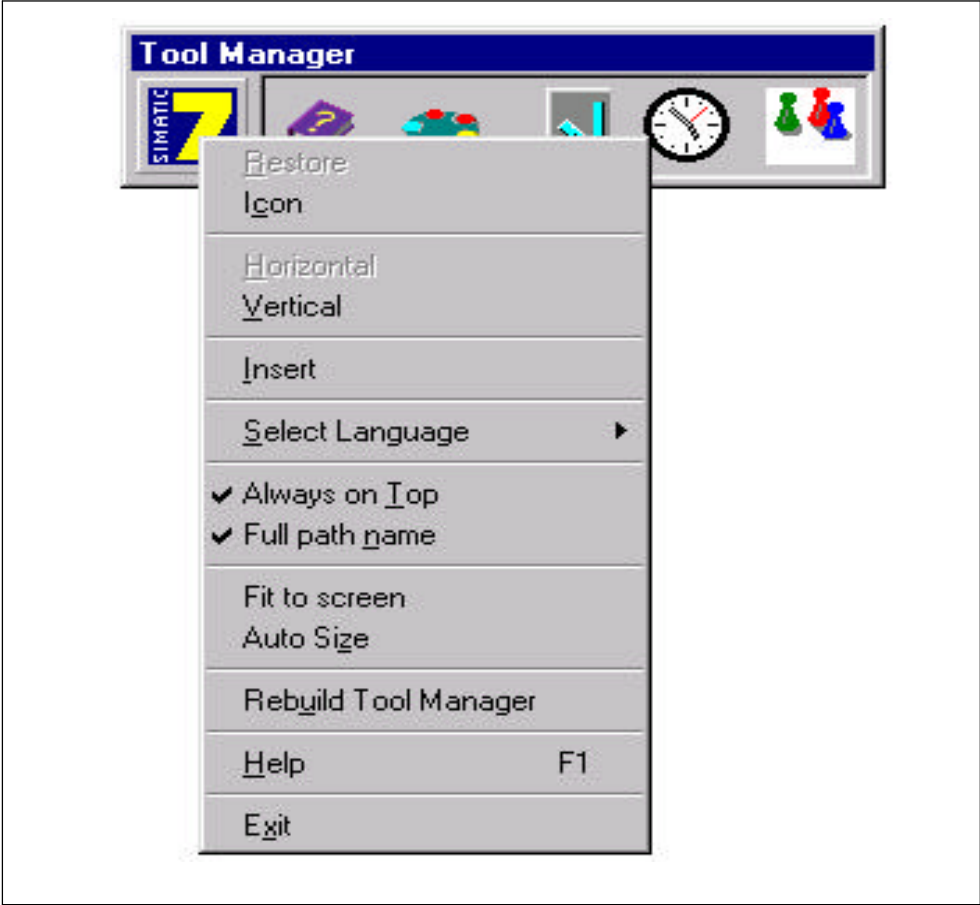

Figure 1-6 Inserting Icons into the WinAC Tool Manager
You can change the size of the Tool Manager. As shown in Figure 1-6, you can use a menu to configure the Tool Manager. You can also choose to display the Tool Manager either horizontally or vertically.
- 2. Display the menu options for the Tool Manager by clicking the right button of the mouse. See Figure 1-6.
You can use the mouse to adjust the size of the Tool Manager. You can also use the options menu (shown in Figure 1-6) to further customize the Tool Manager: